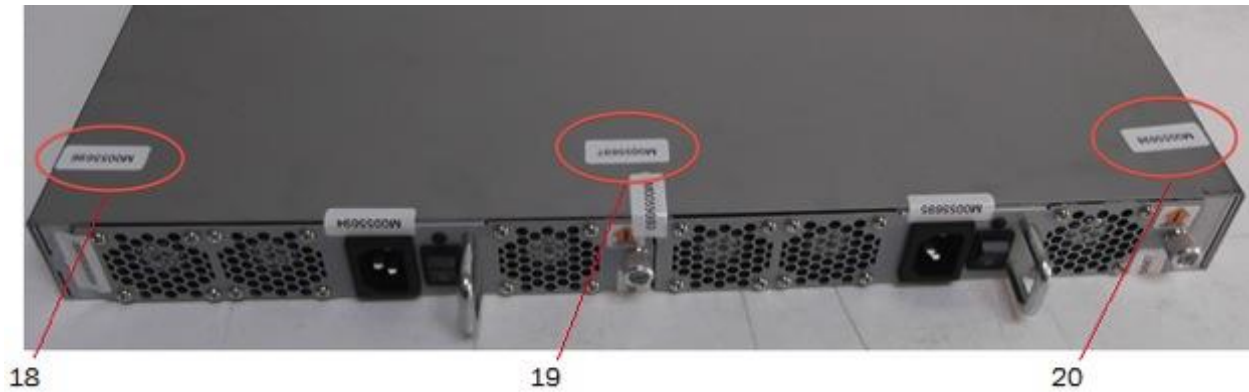

Figure 5. Brocade VDX 6740 top non-port-side seal locations
5. **Top non-port-side:** Apply one (1) seal over the screws along the top non-port-side surface of the chassis. Three (3) seals are required to complete this step. Refer to **Figure 5** for details on how to position each seal.